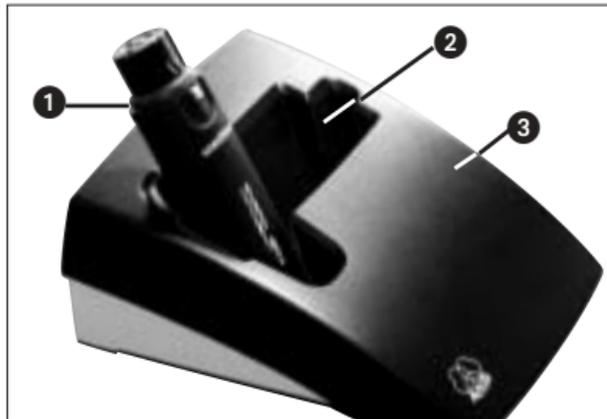

Fig. 2: SO 40
3. Insert the transmitter (1) into the appropriate charging receptacle (2) on the charger as shown in figs. 2 through 4 on page 12.
Important (SO 40 - fig. 2): To prevent the charger from toppling and the transmitter from falling out of the charger, disconnect the SO 40 from the microphone before inserting the SO 40 into the charger.
If the LED starts glowing GREEN CONSTANTLY immediately after inserting the transmitter, you inserted the transmitter the wrong way. Place the transmitter in the charger as shown in figs. 2 through 4.